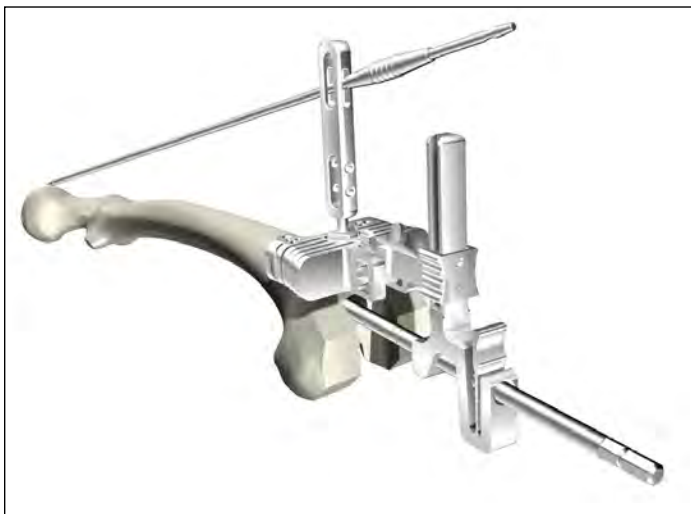

Figure 19
- Alignment can be verified using an Alignment Rod and the Universal Alignment Handle (**Figure 19**).